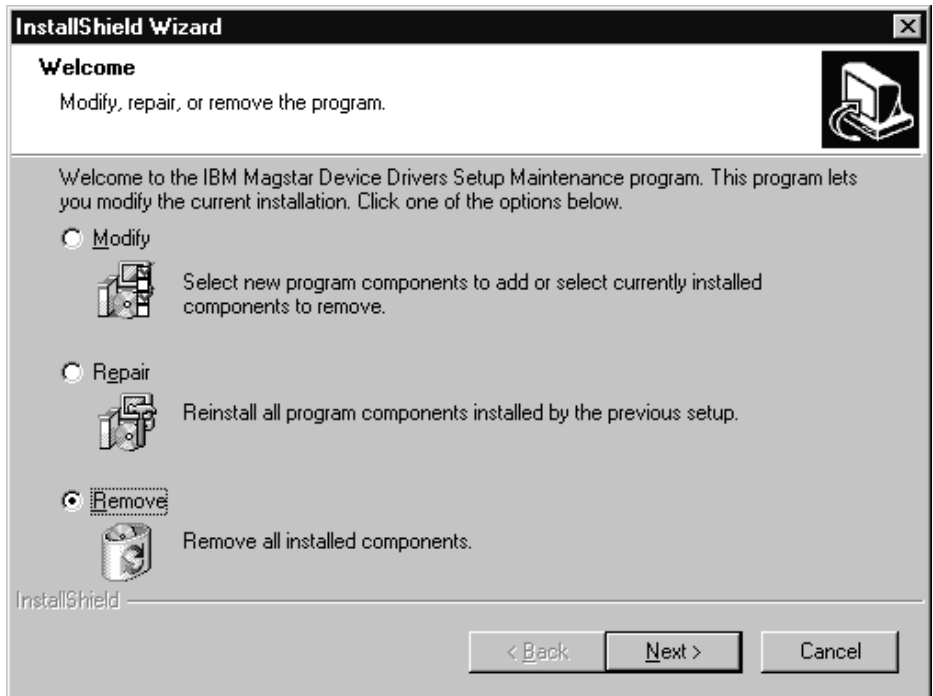

Figure 20. Drive Removal Menu
8. Select the **Remove** option, then follow the *InstallShield Wizard™* to uninstall the drivers. See Figure 20.